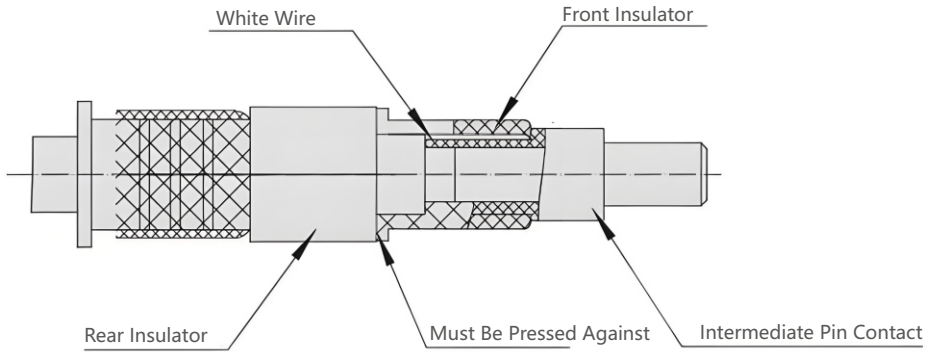

Figure3.11
- ⑥ As shown in Figure 3.11, fit the intermediate pin contact and insulator assembly over the inner socket contact. The conductor must be visible through the observation hole on the contact. The intermediate contact must be pressed against the tail of the insulator.